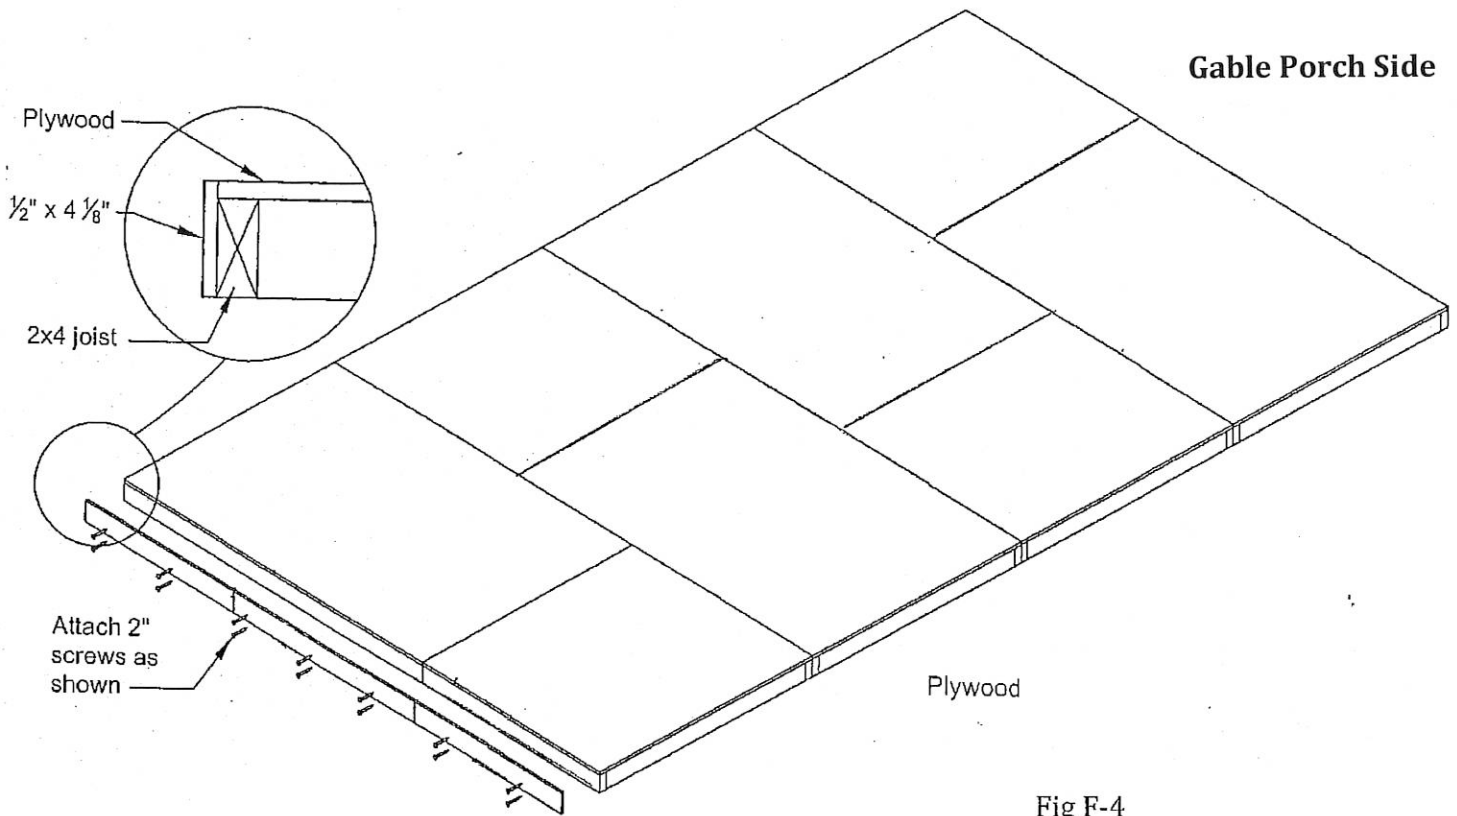

Fig F-4
4. Once the plywood sheets have been installed then attach the 1/2" thick joist trim boards (2 pcs. Of 34 1/2" and 1 pc. Of 46 1/2") to the 115 1/2" side of the floor assembly by using 10 - 2" screws per side. See Fig F-4 for details.